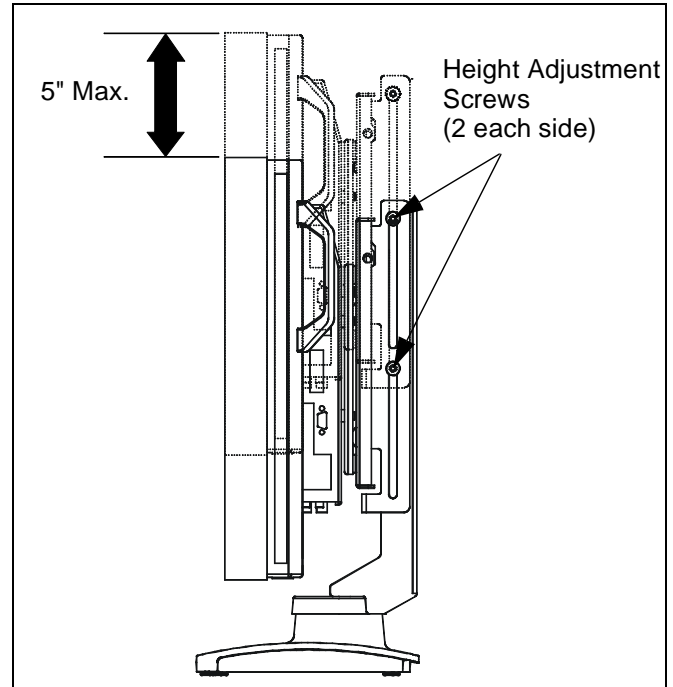

Figure 8
1. While holding the display, loosen the four height adjustment screws. (See Figure 8)
3. Tighten four height adjustment screws. (See Figure 8)